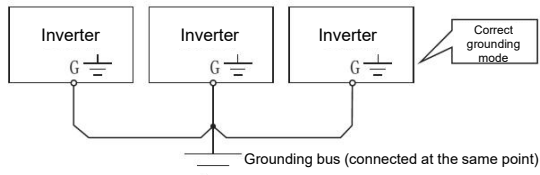

Figure 1-1
- For the sake of safety, the grounding terminals of inverters must be grounded reliably. To avoid the influence of grounding common impedance interference, multiple inverters should be grounded by one-point grounding, as shown in Figure 1-1.